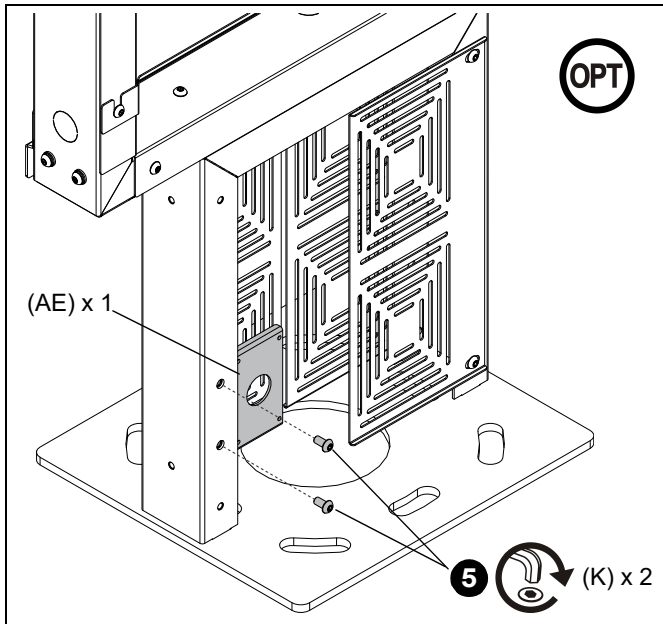

Figure 28
5. **OPTIONAL:** Install the outlet adapter (AE) to the base (AA) using two M8 x 16mm screws (K). (See Figure 28)